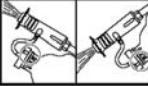

Figure 4
2. Rotate indicator on Soap Tank cap to "UP" or "DOWN" position (Figure 4). Use "UP" to spray at an upward angle (for example, to reach the second story of a building). Use "DOWN" to spray at a downward angle for a patio or deck.